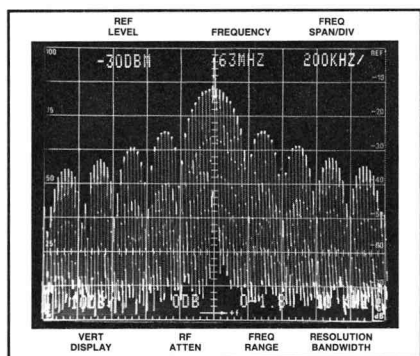

Figure 30. Note void in main lobe and pulse extension on top of main lobe caused by poor carrier on/off ratio.
3. Poor carrier on/off ratio shows up as a response buried under the main lobe (see Fig. 30).